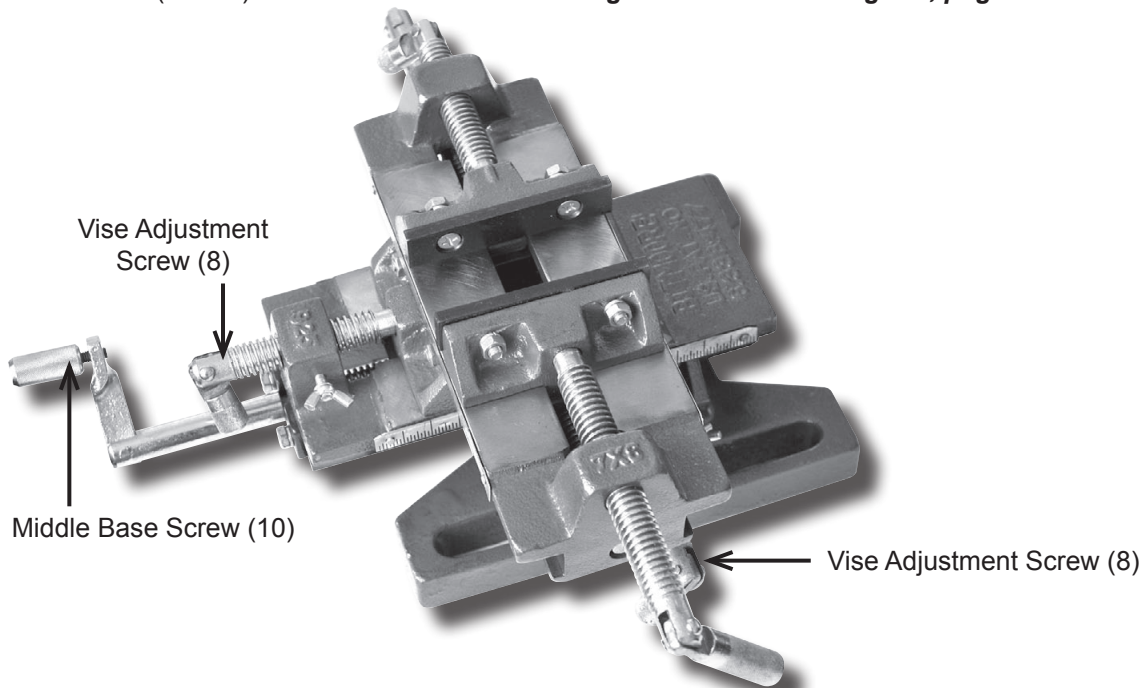

Figure 2
1. The Vise Adjustment Screws (8) and Middle Base Screw (10) are for adjusting the tension on X/Y movement of the workpiece secured in the Vise Jaws. Use the handles to hold the Adjustment Screws (8 & 10) at the desired tension. **See Figure 2 and Parts Diagram, page 7.**